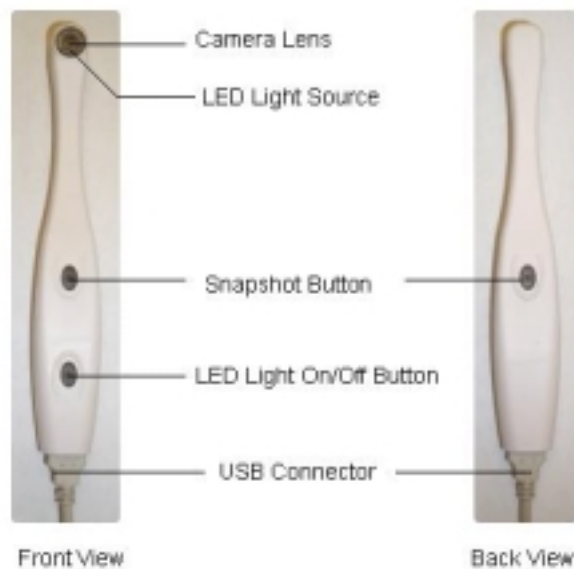

Figure 1. Picture of Suni USB camera
USB cable should be plugged as shown in Figure 1. There are two snapshot buttons (Front View and Back View in Figure 1), one on the front-side, the other on the back-side. The two buttons serve the same purpose, offering convenience in getting a still image during your practice. The camera will remain ON as long as the USB cable is plugged to the PC and camera. The LED light on and off button serves to turn on the lights. Turn off the LED light when the camera is not in use.
4. Turn on the LED light by pressing the LED ON/OFF button. See Figure 1 for location of button.
There is no on/off power switch for the SuniCam Camera. Plug the USB cable on the camera and the PC, the camera is turned on automatically. Turn on the camera light by pressing the appropriate button (Refer to Figure 1). Turn off the light when the camera is not in use.